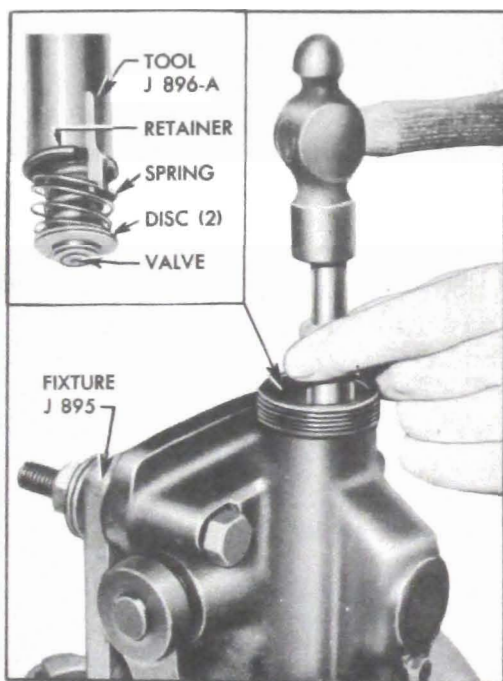

Figure 6-27—Installing Front Shock Absorber Valve Retainer
1. Mount shock absorber on Holding Fixture J 895. Install compression and rebound valve discs, valves and retainers, using Valve Installing Tool J 896-A to install the retainers. The blade of tool is placed in the gap in retainer and it holds valve spring down while retainer snaps into notches in piston. See figure 6-27.